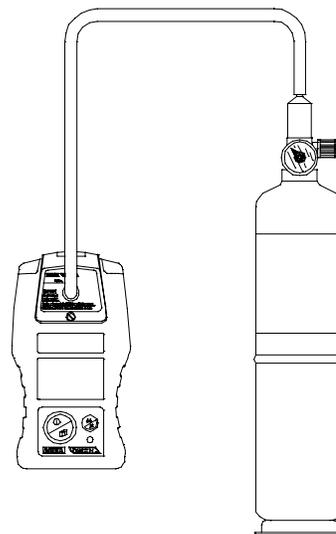

Figure 3-4. Instrument with Calibration Cap Installed
1. Attach calibration cap to the Orion Multigas Detector, orienting the inlet fitting toward the display (FIGURE 3-4).